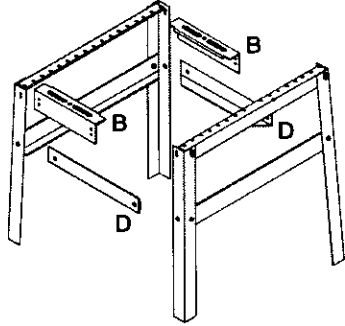

Figure 3 – Connect Leg Sets
- Connect each leg set by attaching the two short upper cross braces (B) and the two short lower cross braces (D) (see Figure 3).